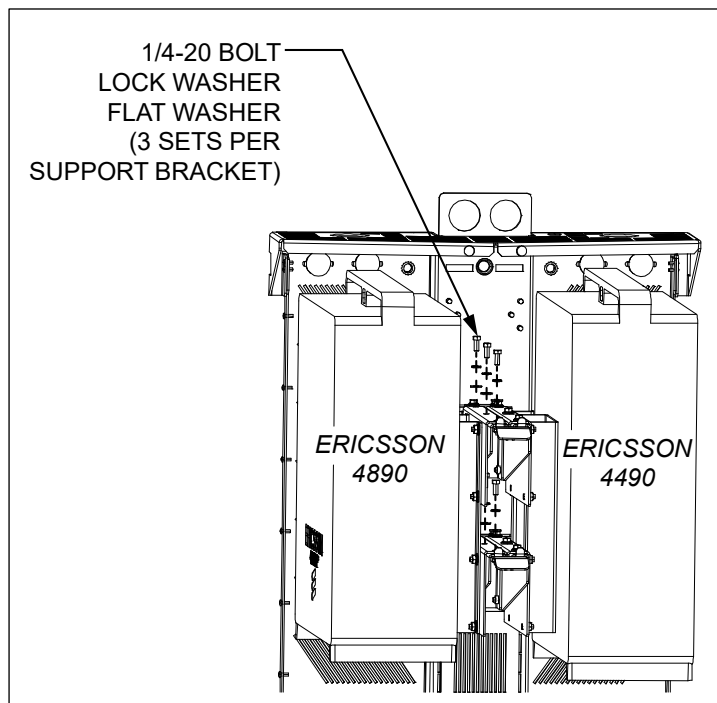

Figure 11 Attach Radios to Support Brackets
3. Mount the support brackets onto the support arms in the SHRD60 (Figure 11). Secure each plate with three 1/4-20 hex bolts, three lock washers, and three flat washers reserved from removing components from the SHRD60's original configuration.